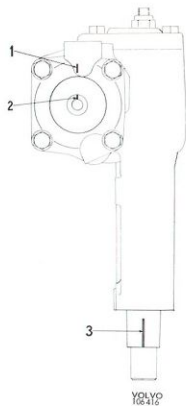
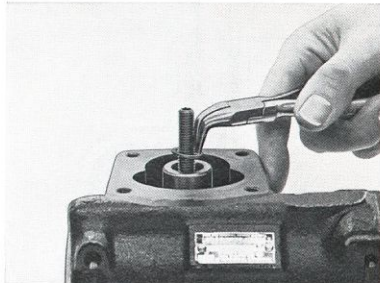

Fig. 6-73. Steering housing in middle position
Fig. 6-76. Removing circlip
- Place the steering housing in the middle position. A slight increase in resistance should then be felt and the position of the pitman arm shaft lands should be as in Fig. 6-73 and the line-up marks on the steering spindle and housing should coincide.
- Remove the locknut (17) and the attaching bolts (19) for the cover. Screw in the adjusting screw (11) through the cover and remove the cover (16). Take out the loose needles in the cover bearing (14).
- Remove the circlip (13) and adjusting screw (11), see Fig. 6-76. Adjust the pitman arm shaft (10) to the center position and lift it up, see Fig. 6-73. With a magnet remove the loose rollers in the bearings (3 and 7).